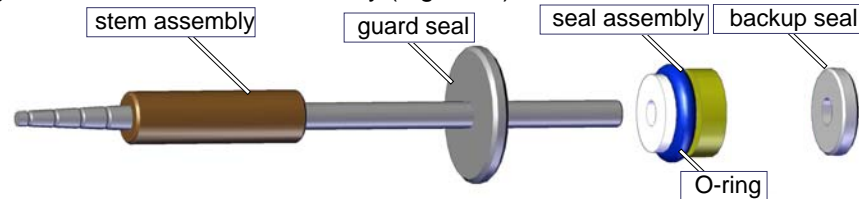

Figure 15: Install the stem assembly components
9. Place guard seal on the stem assembly (Figure15).
10. Apply a light film of Lubriplate on the stem assembly and carefully slide on the seal assembly with the white end toward the guard seal (Figure15).